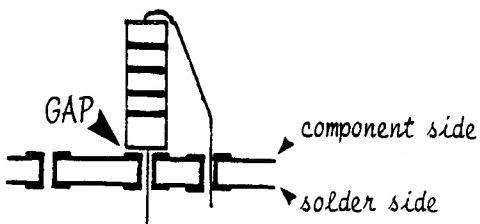

FIG. 5. INSTALLING A RESISTOR ON ITS END.
Pin 1 of single-in-line package (SIP) resistors or resistor networks (RN) is common and must be positioned correctly on the card. Pin 1 may be identified by a "dot", a "bar", or a number "1" on the body of the device. Most cards require SIP "bussed" resistors. The DISC DRIVE CARD, GUIDE 1-3, on the other hand, uses SIP "isolated" resistors. If isolated SIPs are not available substitute the same number of single resistors of the same value. Stand them on their end as shown in Fig. 5, Installing a Resistor on its End. Leave a small gap between the end of the resistor and the circuit card to prevent "solder wicking", i.e., solder creeping along the card and possibly causing a short circuit.